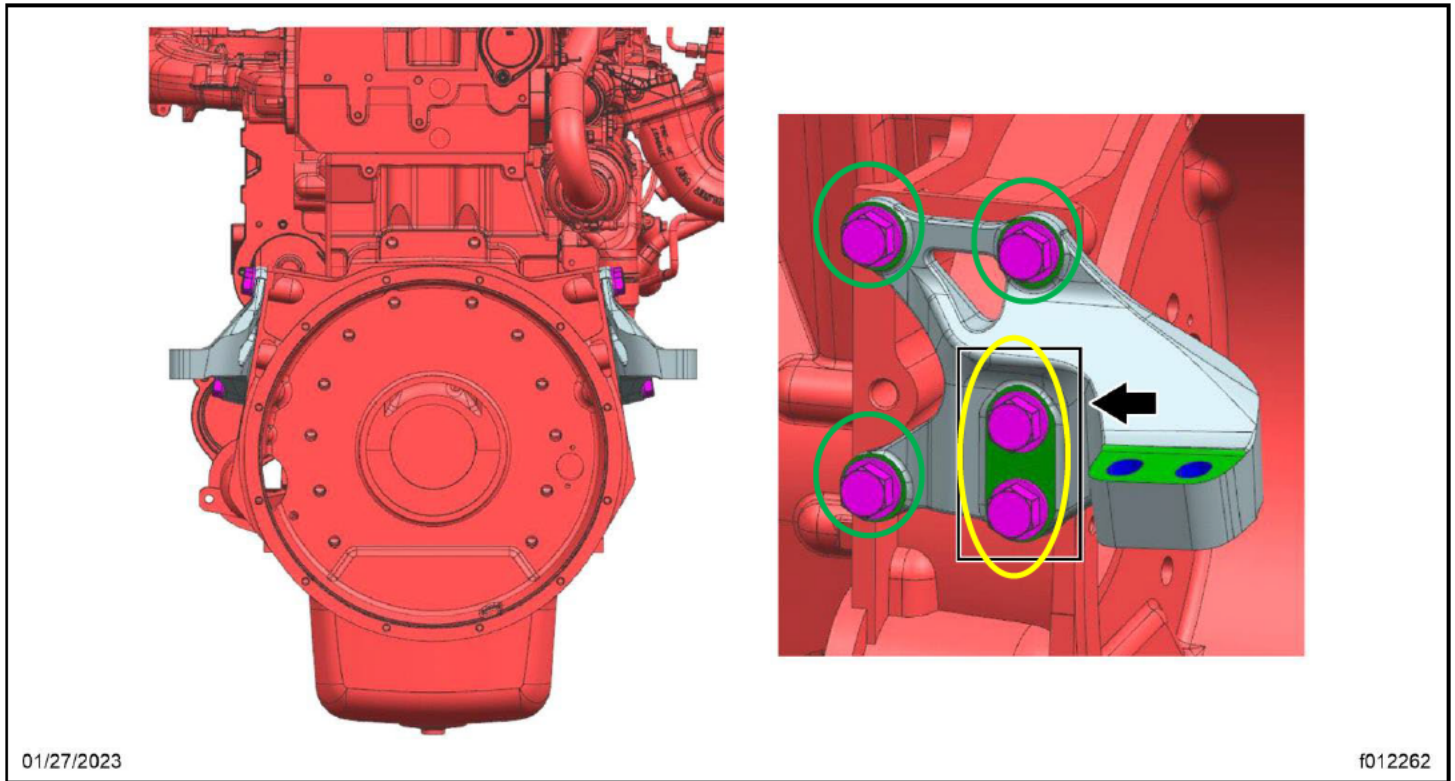

Fig. 4, Bolt Identification
10. If bolts are missing, replace the bolts as needed following steps 9 and 10, See **Fig. 4**, bolt identification.